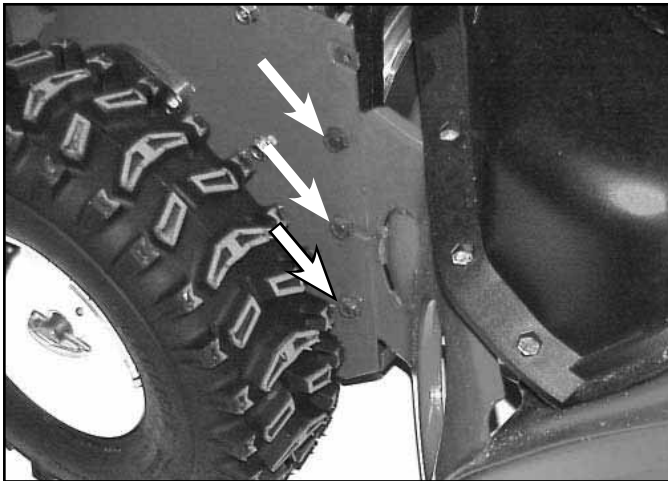

Fig 087
5. Remove three capscrews down each side connecting the auger to the traction assembly and separate the sections (Fig. 087).